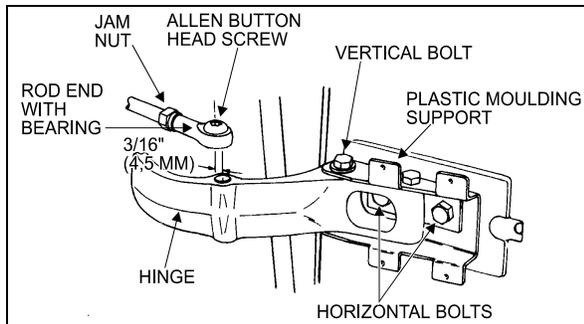

FIGURE 18: UPPER DOOR HINGE (COACH) 18058
2. Fully close the damper while turning the dust cap or piston rod slowly CCW until it is felt that the cams of the adjusting nut engage in the recesses of the foot valve assembly (Fig. 18).
*In figure 18, if there is an indentation (B) in the dust cap (C) and the cover shows two holes (A), the damper is fitted with a bump rubber (D). If so, fully extend the damper and insert a round bar or screwdriver through the holes. Push the bump rubber down and remove. Remove the split plastic collar (E) (if fitted) from the piston rod.*
Where a bump rubber was installed, refit same inside the dust cap and by fully closing the damper, the rubber will seat again at top of the dust cap. Refit the split plastic collar E (Fig. 18)